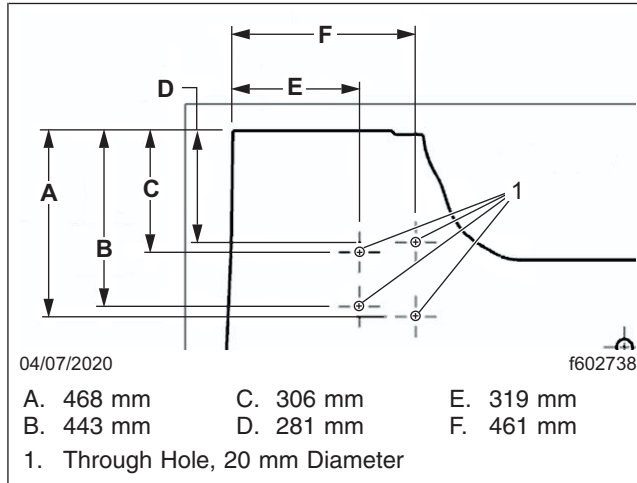

Fig. 6, Push Nut Hole Dimensions, LHD Vehicles
- For LHD vehicles, drill four holes of 20 mm each through the floor mat with accordance to the dimensions shown in Fig. 6.